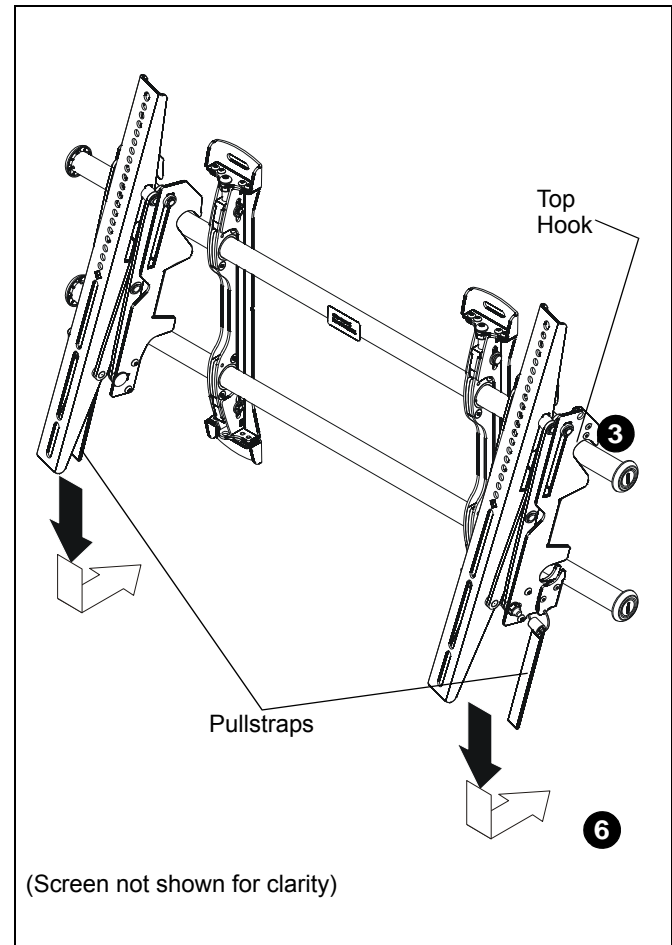

Figure 11
- Hang top hook of interface brackets (U and V) onto the top bar of the mount (R). (See Figure 11)
- Pull downward on the pullstraps and swing inward toward wall, latching interface brackets to lower bar and locking bottom of screen to the mount. (See Figure 11)